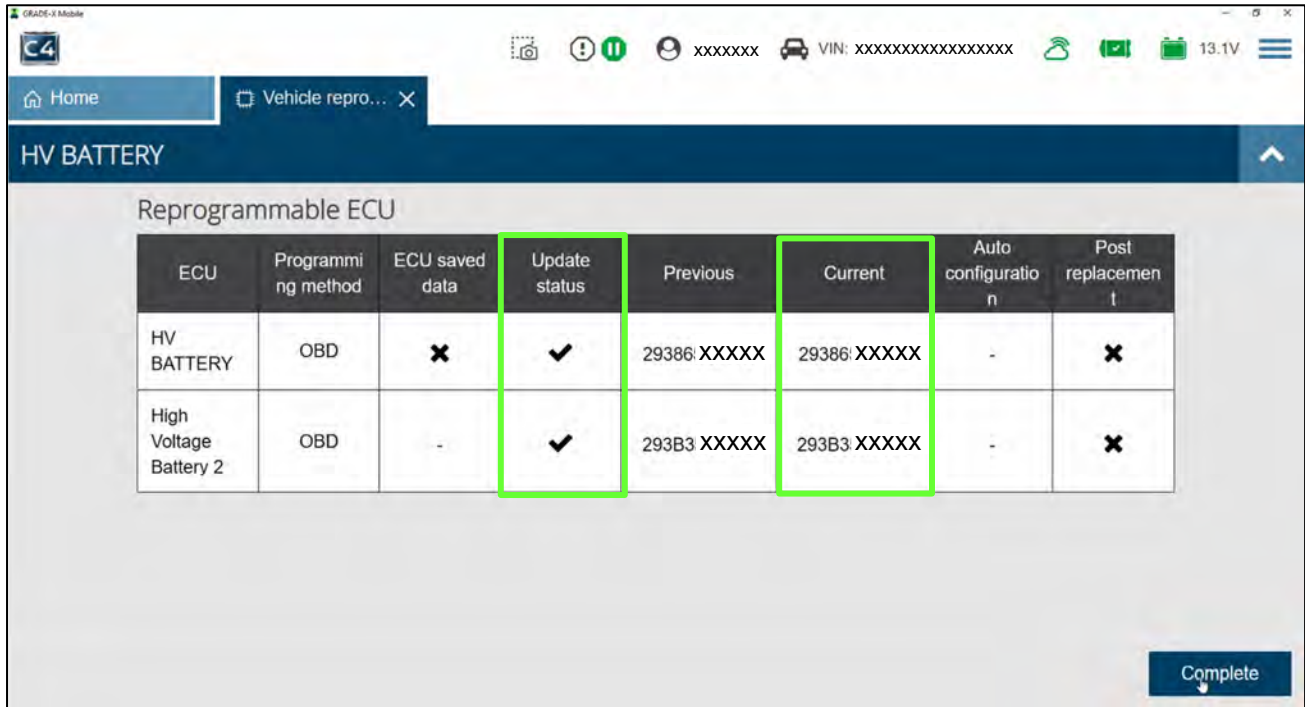

Figure 40
62. Verify that **Update status** has “check marks” for the **HV BATTERY** and the **High Voltage Battery 2** (Figure 40).